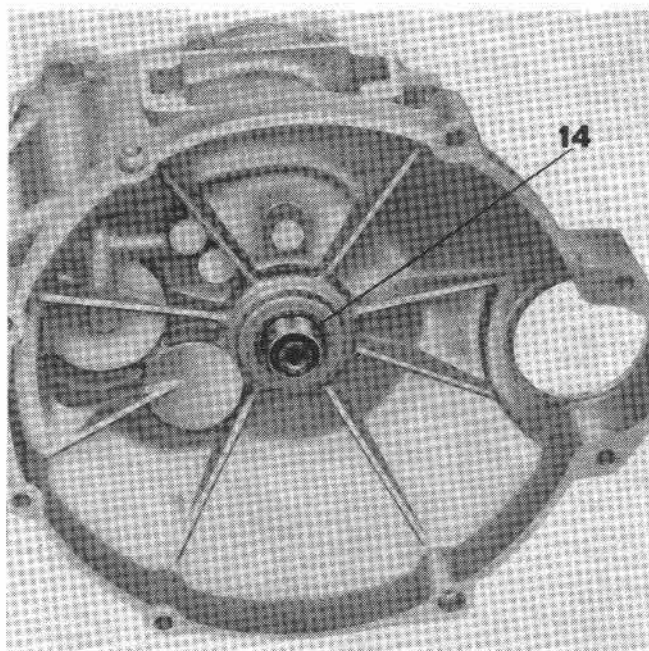

Fig. 83
- fit clutch shaft c/w idle gear, sliding muff, cush drive spring cush spring plate and semicollars. When housing clutch shaft in gearbox, to avoid to damage seal ring use tool No. 12910700 (14 on Fig. 83).